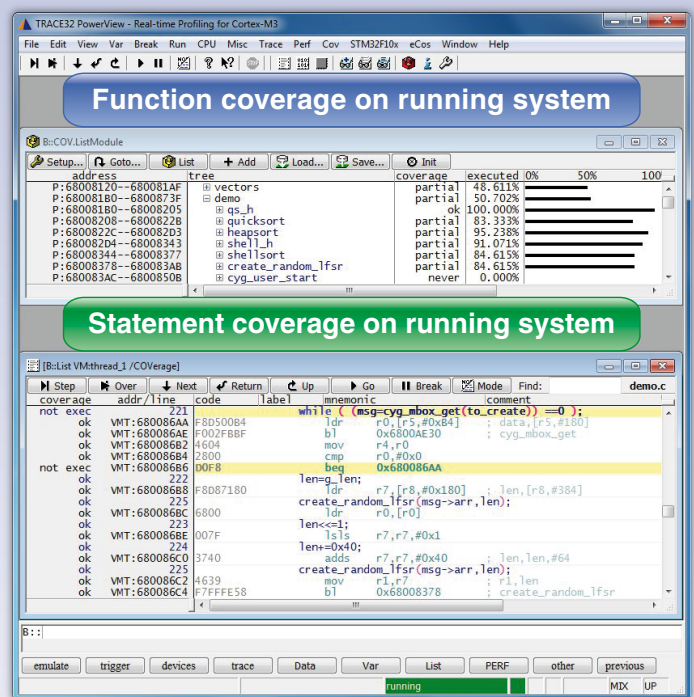

Fig. 4: Real-time profiling enables code coverage analysis to be followed live on the screen.
**Real-time Profiling** is particularly suitable for performing object statement and object branch coverage. The coverage analysis can be followed live on the screen and the test results are visible immediately (see Figure 4). Lines marked as "ok" have already been covered, lines marked as "not exec" may require additional test stimuli.